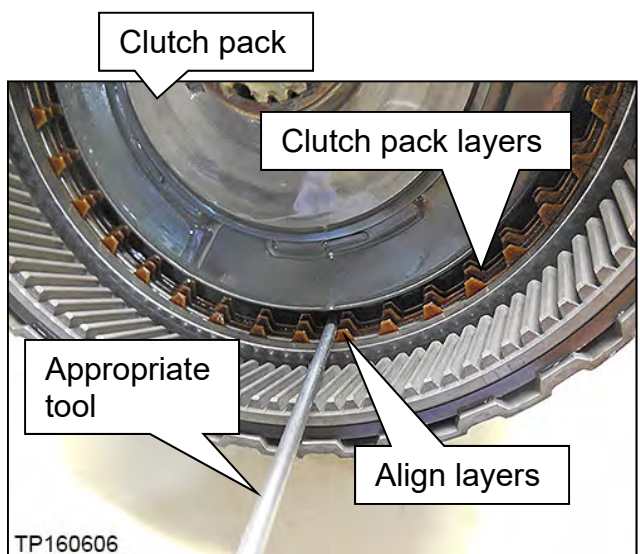

Figure 68
- Bottom of the clutch pack shown in Figure 68.